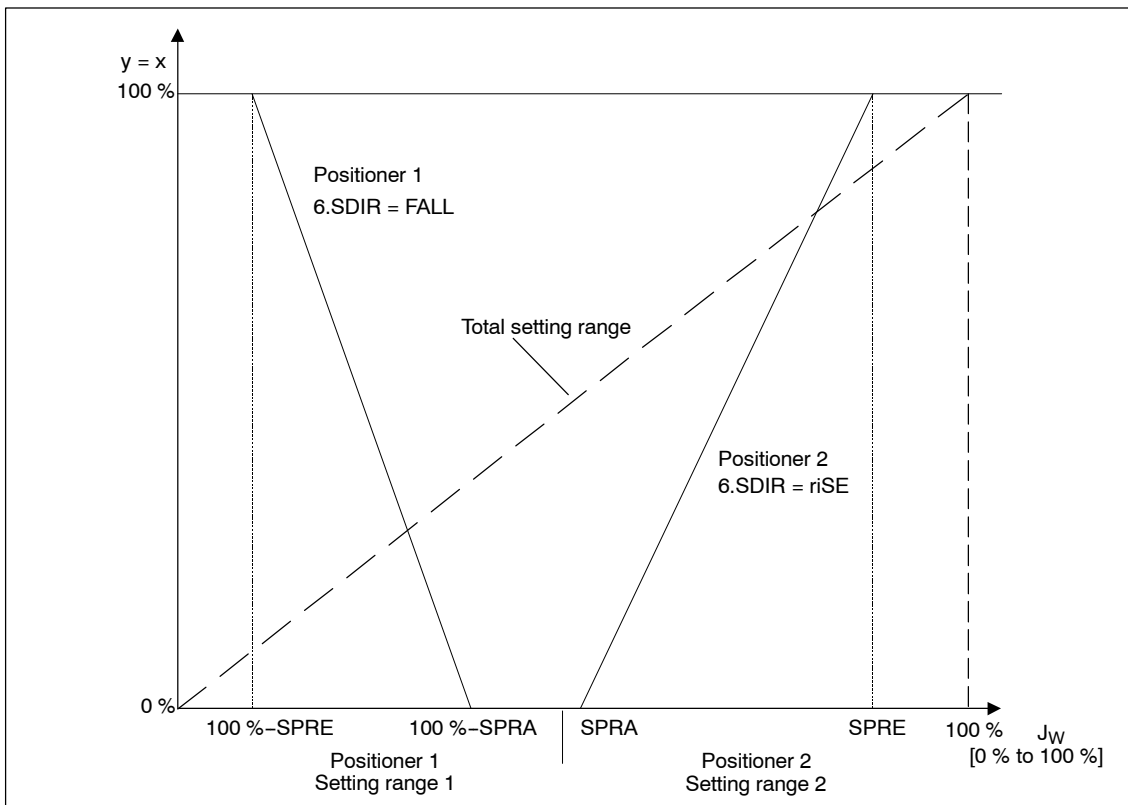

Figure 4-8 Example: Split range-operation with two positioners
- 7.SDIR** Setpoint direction (see figure 4-8, page 90)
- 8.SPRA** Split range start (see figure 4-8)
- 9.SPRE** Split range end (see figure 4-8)